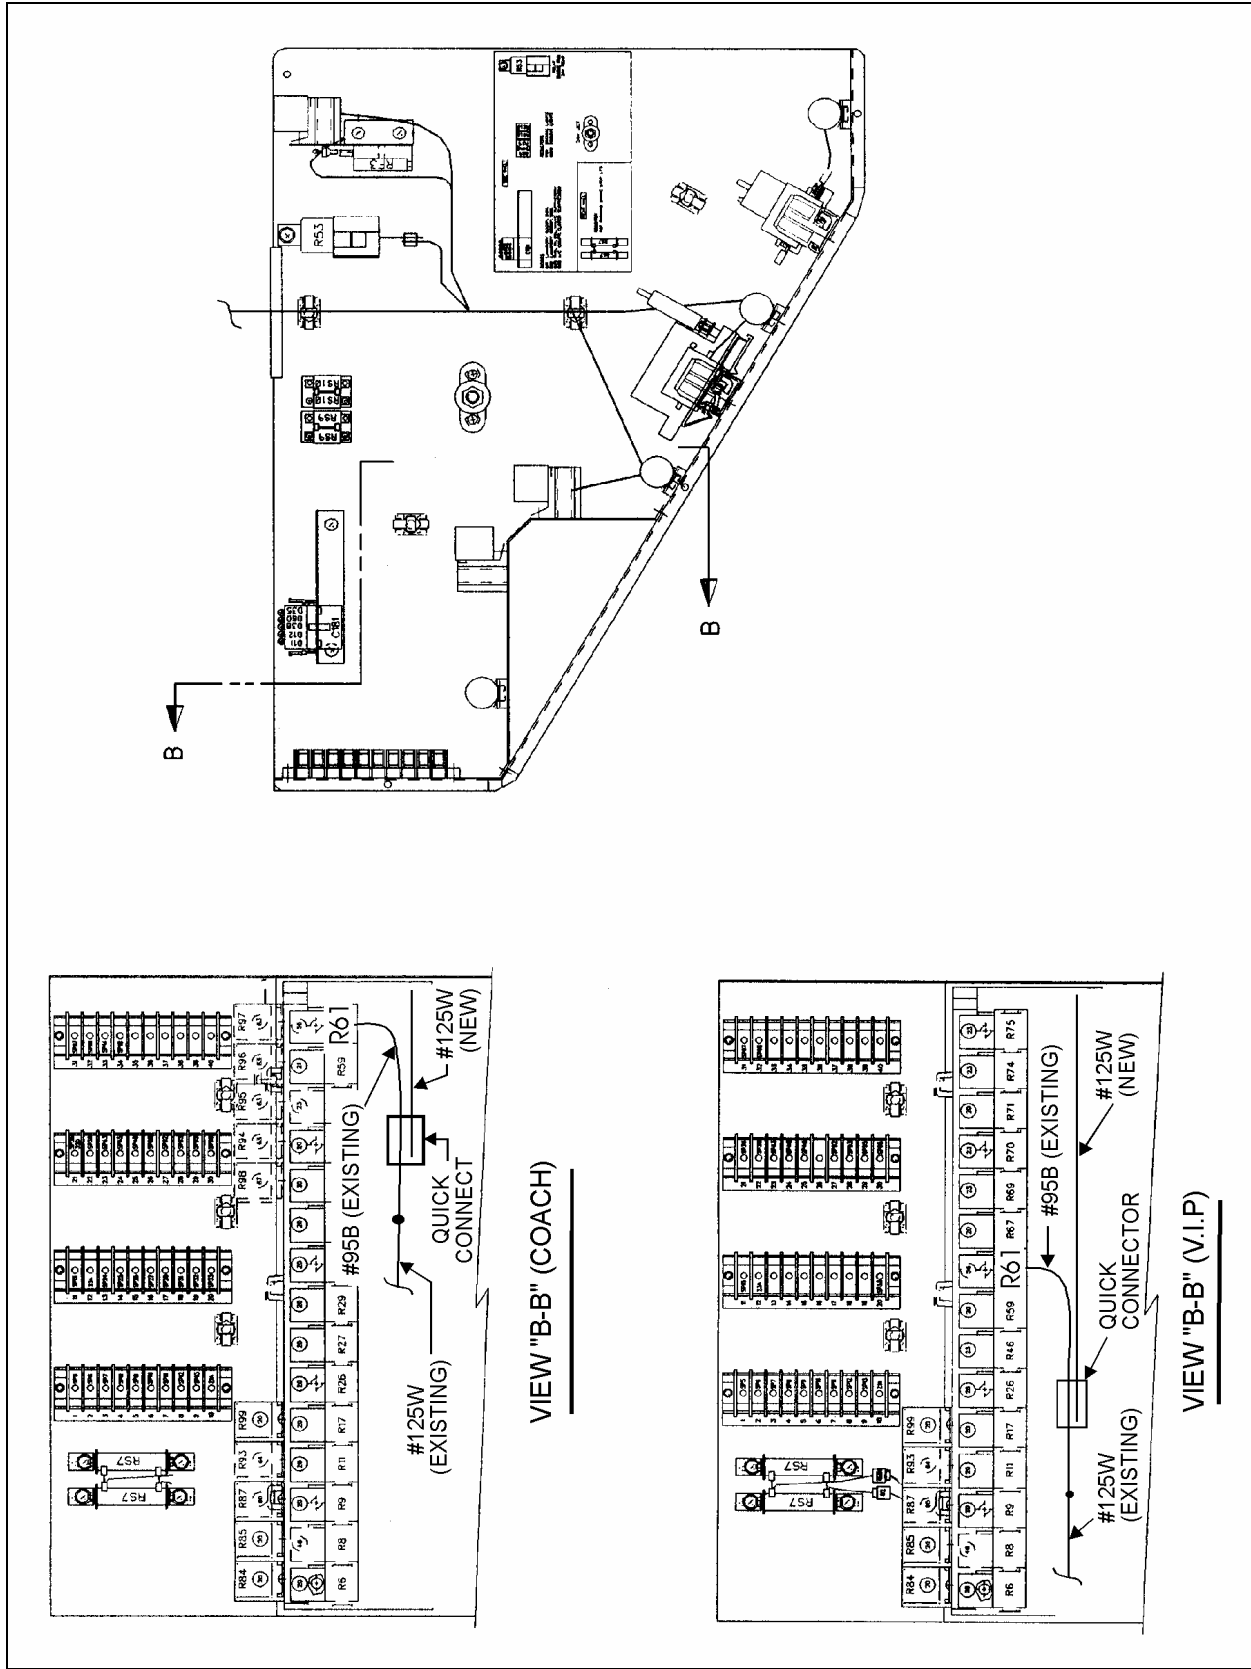

FIGURE 3
8. Identify on wires provided with fan control module, the black wire #125W, route this wire up to relay base R61 then tap wire #125W with relay base R61's wire #95B using quick connector #560710. See the appropriate view "B-B" in figure 3 (page 4).